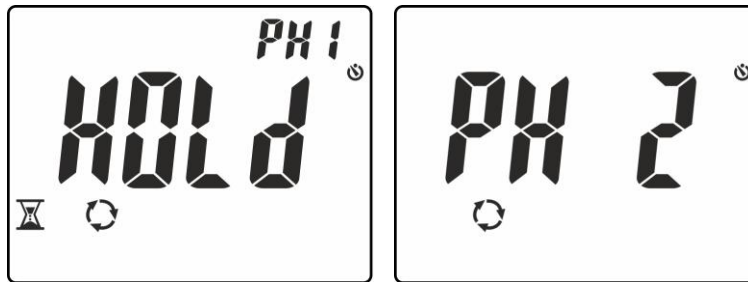

Fig. 12: Detecting phase L1 and waiting for phase L2
4. In conditions of correct voltage and frequency, the instrument shows message “**HOLD**”, symbols and “PH1” and the buzzer sounds continuously, waiting for a stable voltage value on phase L1 to be detected (see Fig. 12 – left side).
5. **Do not remove the lead from phase L1** until message “**PH 2**” appears flashing on the display (see Fig. 12 – right side)